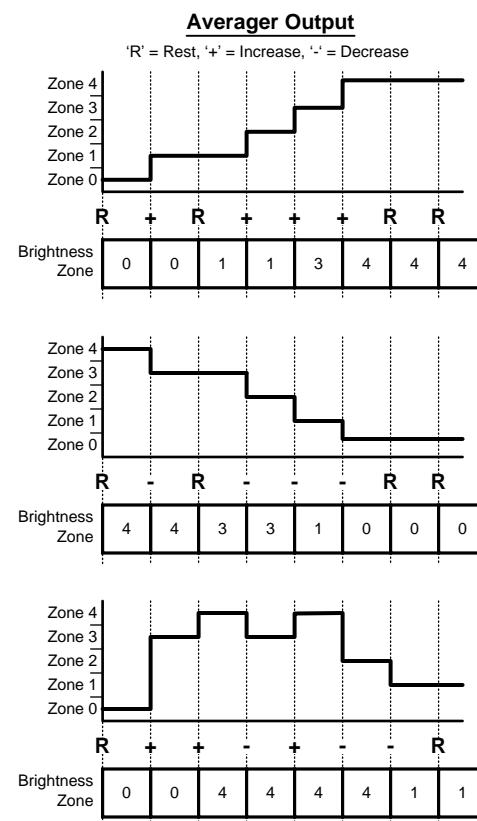

Figure 36. Brightness Zone Change Examples
5. To Increase the brightness zone, the Averager output must have increased for at least 2 averaging periods or increased and remained at the new level for at least two averaging periods ('+' to '+' or '+' to 'Rest' in Figure 36).
6. To decrease the brightness zone, the Averager output must have decreased for at least 2 averaging periods or decreased and remained at the new level for at least two averaging periods ('-' to '-' or '-' to 'Rest' in Figure 36).
In the case of two consecutive increases or decreases in the Averager output, the LM3530 will transition to zone equal to the last averager output (Figure 36).